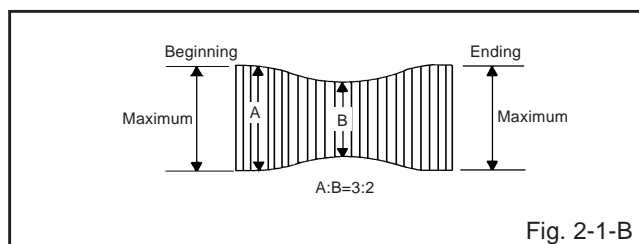

Fig. 2-1-B
3. Trigger with SW pulse and observe the envelope. (Refer to Fig. 2-1-A)
5. Press and hold the tracking control button and (at the point that the envelope waveform starts to reduce) adjust the envelope so that the A : B ratio is better than 3 : 2. (Refer to Fig. 2-1-B)
1. Adjust the height of reel disk. (Refer to item 1-1)
2. Confirm and adjust tension post position. (Refer to item 1-2)
3. Adjust the guide roller. (Refer to item 2-1)
4. Adjust the A/C head tilt. (Refer to item 2-2)
5. Adjust the A/C head height and azimuth. (Refer to item 2-3)
6. Connect CH-1 on the oscilloscope to TP4001 and CH-2 to TP4002. Playback the VHS alignment tape (JG001C). Set the tracking to manual center. Adjust X with the screw driver for X (JG153) as the Fig. 2-1-A and Fig. 2-1-B. (Refer to No. 2 of the item 2-1).